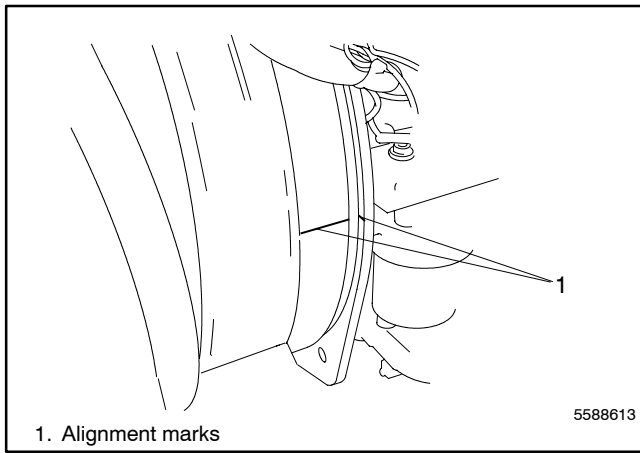

Figure 15-13 Alignment Marks
6. Check that the alignment marks on the stator housing and engine adapter match. See Figure 15-13.